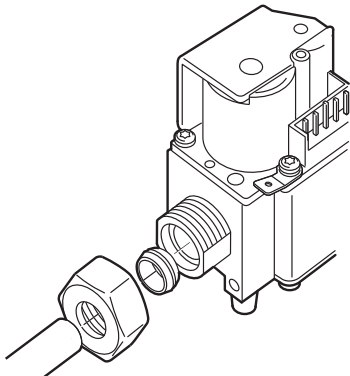

Fig. 7. External thread connection with nut and olive
- ④ With 3/4" nut and "O"-ring (see fig 7.)